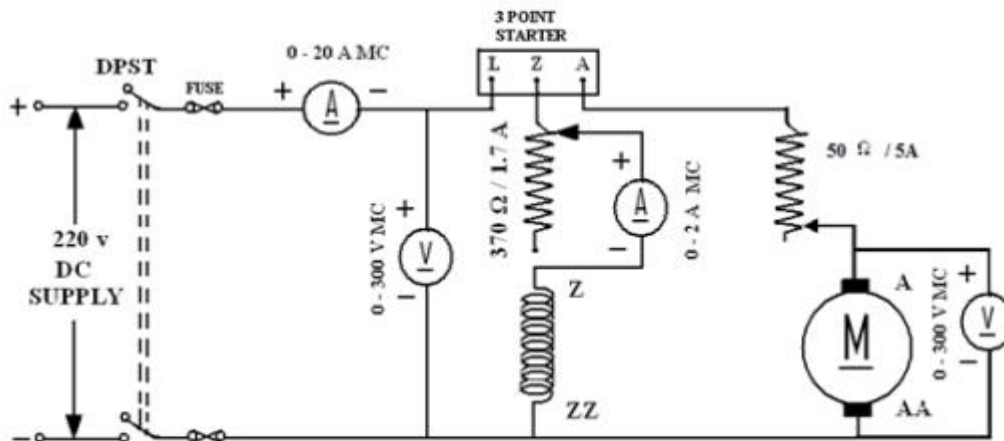

Figure 7 - Speed control of DC motor
1. Calculate the output power and efficiency when motor takes 10A on full load and 5A on half Load in figure 7.